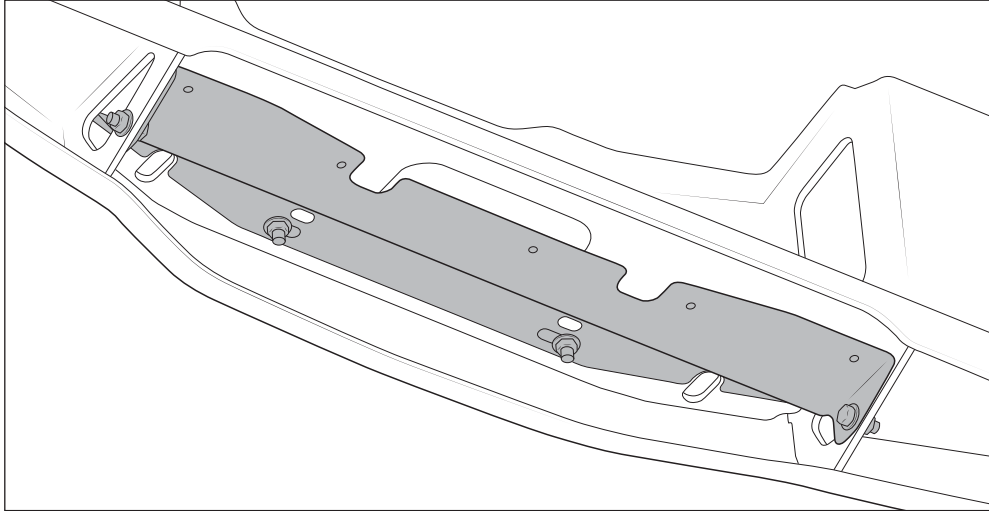

Figure 26
7. **2010–2013 trucks**—Install the AEV cooling shroud bracket to the bumper using the supplied 3/8" x 1" hardware (fig. 26). Make sure the bolts going through the winch mount are located so as not to interfere with the winch. NOTE: If the winch hardware is already using the front set of slots you can use this hardware to secure the cooling shroud bracket.